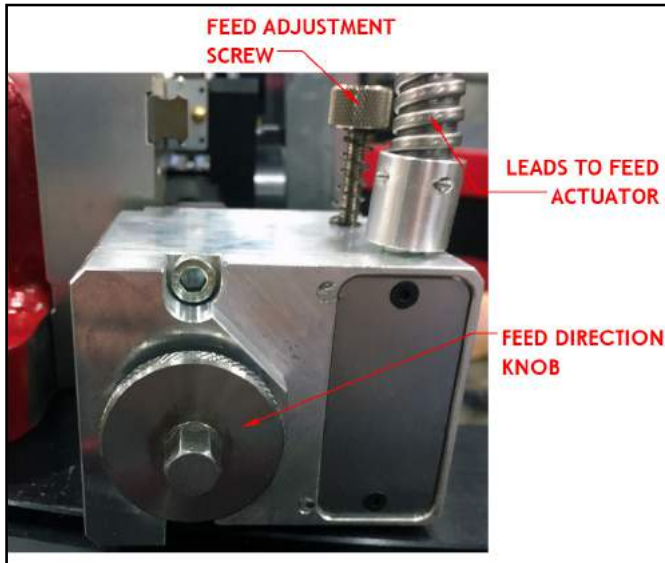

FIGURE 4-5. FEED ADJUSTMENT SCREW AND FEED DIRECTION KNOB
- Set the feed direction knob (shown in Figure 4-5 on page 26) to the desired direction.
1. Disengage the feed trippers (see Figure 4-5).